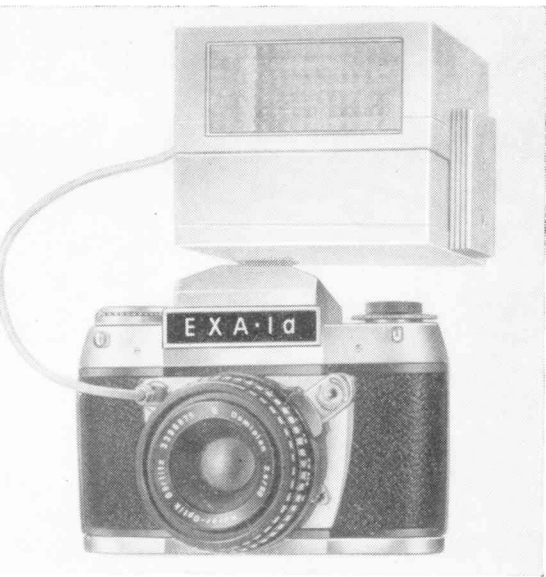

Fig. 33
Replace the camera back (32) in the manner already described and turn the knurled ring (33) until the red dots are at  $90^\circ$  to one another. It is now necessary to fire off two blank frames in order to wind on the fogged beginning of the film: release the shutter, swing the shutter-tensioning lever (9) right up to its stop, then release the shutter again and swing the shutter-tensioning lever up to its stop for the second time. The disc of the frame counter (10) is then turned in the direction of the arrow with your index finger to the figure which represents the full number of exposures available on the film you are using; when using a 36-exposure film, set the counter to "36" (Fig. 33), and with 20-exposure films set it to "20". The EXA Ia is then ready for action, and after taking each picture the frame counter will show how many more exposures can still be made on the film in the camera.
In all cases, the "open flash" technique is used for taking flash pictures with the EXA I a, i. e. the flash is fired whilst the shutter is fully open. The synchro-cable of the flashgun or electronic flash unit is plugged into the flash connection (8); before doing this it is important first to tension the shutter. Fig. 33 shows the EXA I a with an electronic flash unit connected.